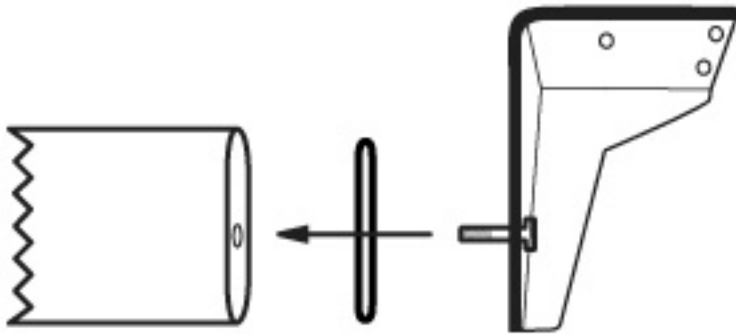

FIGURE 1 - Step Bar to Bracket
4. Place the side bars into position and attach tube using 1/2"-13 x 1.75" Hex head bolt / 1/2" flat washer/lock washer. Make sure the 3" plastic ring is attached at each end of tube. **NOTE:** Passenger Side Bar is packaged in a Pink sleeve. **SEE FIGURE 1**